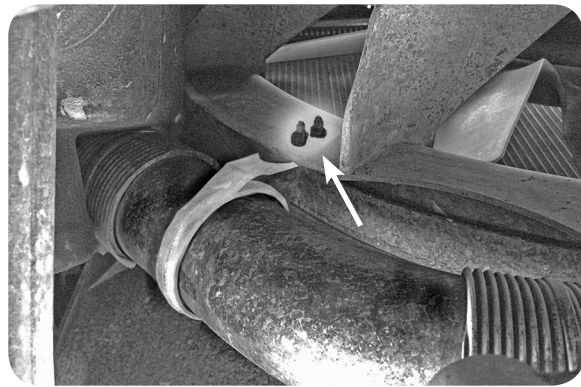

Fig. 2
10. Below vehicle, disconnect mounting strap tree clip from radiator shroud. (Fig. 2)